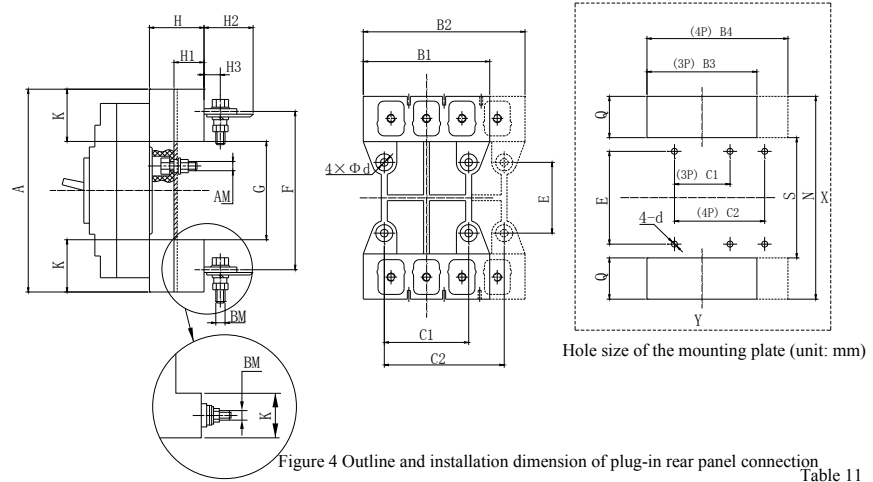

Figure 4 Outline and installation dimension of plug-in rear panel connection
8.3 Outline and installation dimension of plug-in rear panel connection type (See Figure 4 and Table 11)